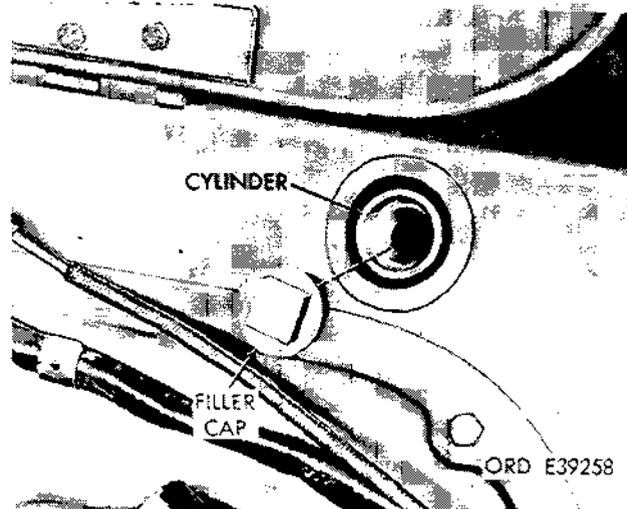

Figure 2-368. Check hydraulic fuel level in master cylinder.
- (1) Check hydraulic fluid level in master cylinder and fill with proper fluid until fluid reaches bottom of thread level (fig. 2-368).